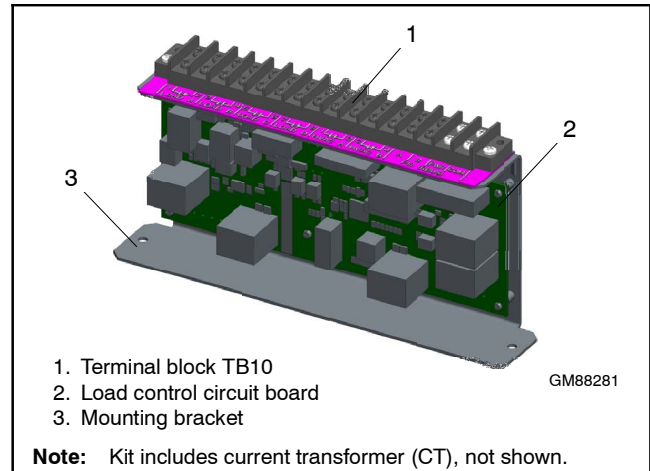

Figure 2-3 Load Shed Assembly GM88281-1 (mounts inside the transfer switch enclosure)
- The optional Load Shed Kit mounts inside a model RDT or RXT transfer switch. Figure 2-3 shows the load shed assembly.